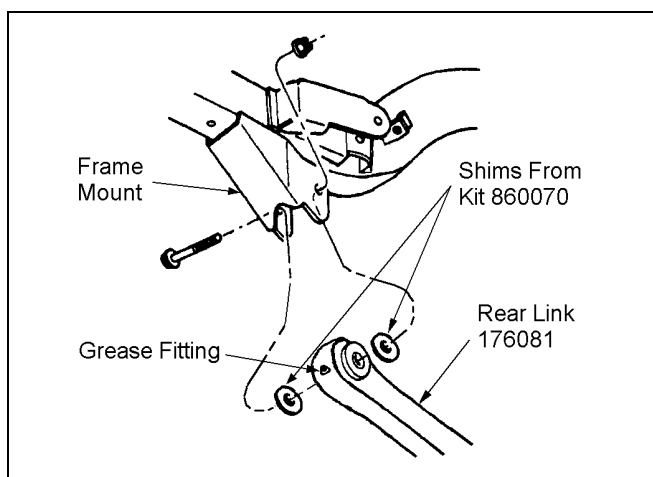

Figure 14
- 3) ☒ Install a new Rancho lower suspension arm, along with four shims from kit 860070, to the frame and axle brackets. See figure 14. Use original hardware but do not tighten.